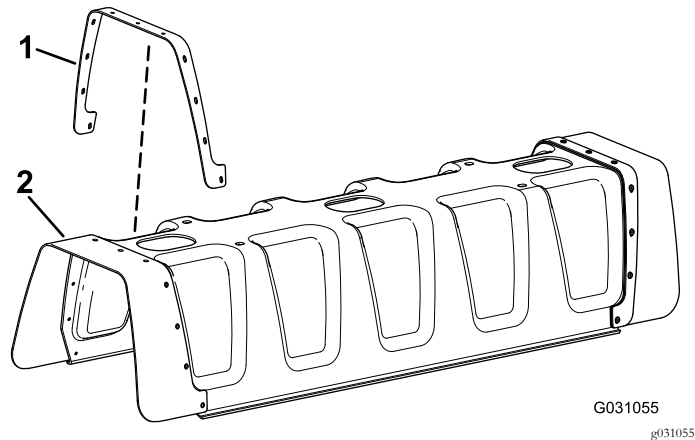

Figure 3
2. Align the holes on the reinforcement plate with the holes on the rubber cover (Figure 3).